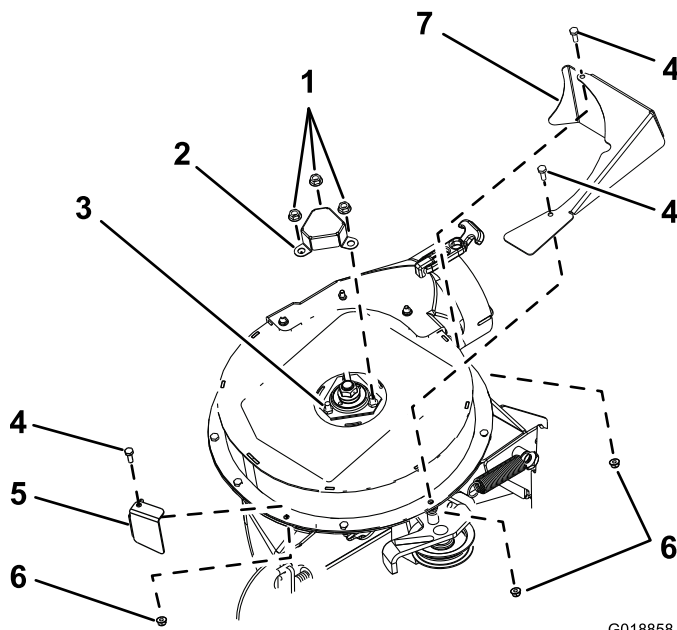

Figure 8
1. Align the shaft guard to the 3 bolts and 3 nuts that secure the upper-bearing housing (Figure 8).
2. Secure the shaft guard to the blower with the 3 serrated nuts that you removed in step 1 of Removing the Shaft Cover and Hardware (page 4); refer to (Figure 8).
1. Align the forward guard to the upper blower housing (Figure 8).
2. Secure the forward guard to the upper blower housing with a hex-head bolt (1/4 x 3/4 inch) and a locknut (1/4 inch) that you removed in step 3 of Removing the Shaft Cover and Hardware (page 4); refer to Figure 8).
3. Align the tensioner guard to the upper blower housing (Figure 8).
4. Secure the tensioner guard to the upper blower housing with 2 hex-head bolt (1/4 x 3/4 inch) and 2 locknut (1/4 inch) that you removed in step 3 of Removing the Shaft Cover and Hardware (page 4); refer to Figure 8.